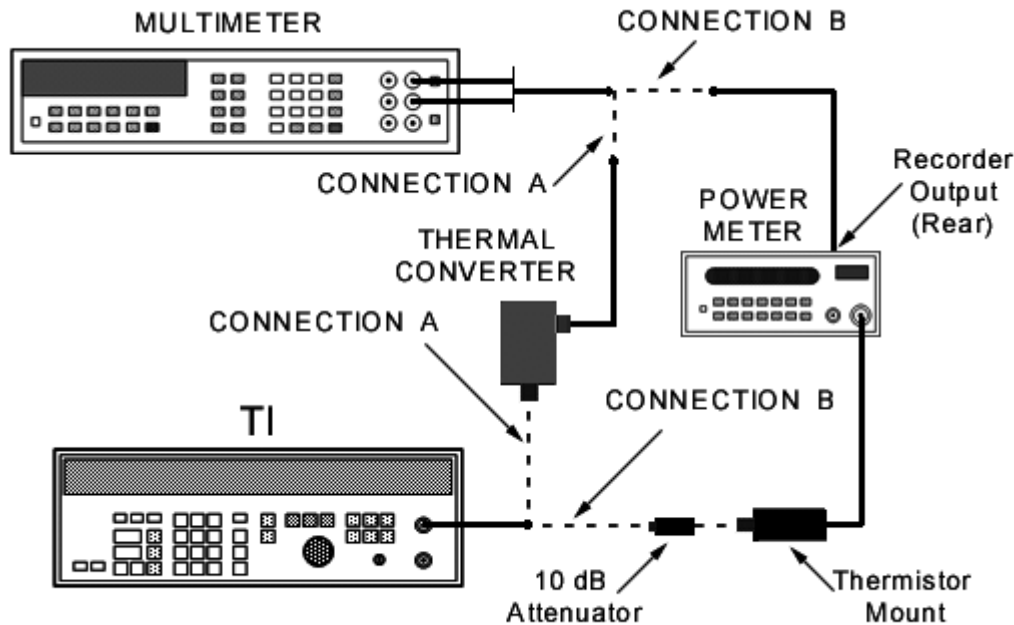

Figure 4. Flatness.
- (1) Connect equipment as shown in figure 4, CONNECTION A.
- (2) Set **FREQUENCY** to 100 kHz and press +13.01 dBm.
- (3) Record multimeter reading.
- (4) Press +12.91 dBm.
- (5) Record multimeter reading.
- (6) Calculate the allowable tolerance by subtracting reading in (5) above from reading in (3) above.
- (7) Record tolerance.
- (8) Reset amplitude to +13.01 dBm.
- (9) Set TI to the following frequencies, allow multimeter reading to settle and record the reading: 200 Hz, 50 kHz, 500 kHz, 1 MHz, 5 MHz, and 10 MHz (see **NOTE** above).
- (10) The result for each frequency must indicate the reading of (3) above \pm the tolerance established in (7) above.
- (11) Disconnect figure 4, CONNECTION A, equipment and reconnect as shown in figure 4, CONNECTION B.
- (12) Press TI **FREQUENCY** to 10 MHz and **AMPLITUDE** to +13.01 dBm.
- (13) Adjust power meter **CAL FACTOR** control set for power sensor.
- (14) Record multimeter reading.
- (15) Press +12.86 dBm.
- (16) Record multimeter reading.
- (17) Calculate the allowable tolerance by subtracting reading in (16) above from the reading in (14) above.
- (18) Record tolerance.
- (19) Reset amplitude to +13.01 dBm.
- (20) Set the TI to the following frequencies and record the multimeter readings: 20, 30, 40, 50, 60, 70, and 80 MHz.
- (21) The result for each frequency must indicate the reading of (14) above \pm the tolerance established in (18) above.